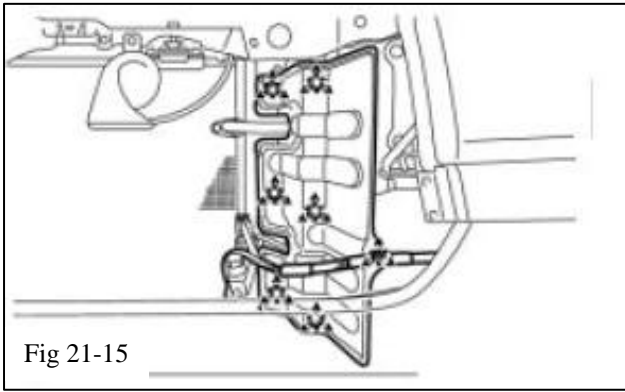

Fig 21-15
- (n) Using a clip remover, remove the 6 clips, disconnect the wire harness clamp, and remove the LH radiator side deflector (Fig 21-15).